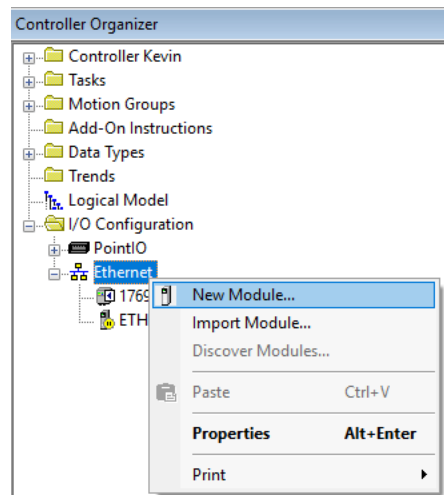

Figure 1 – Create New Ethernet-Module
2. Create a new Isaac Ethernet module by right clicking on the **Ethernet** menu item displayed on the **Controller Organizer** window (Figure 1) and select **New Module...**